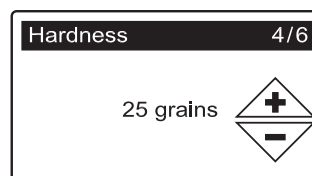

FIG. 11
7. **HARDNESS** Press the UP (▲) or DOWN (▼) buttons to set the value of your water’s hardness (See Figure 11).